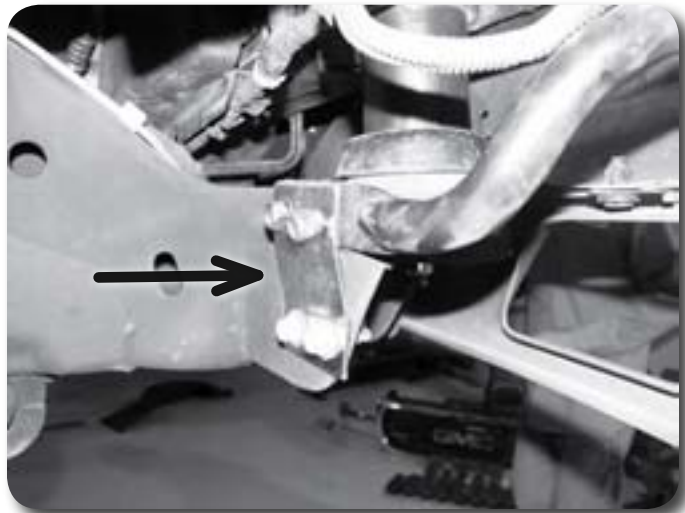

Figure 25
49. Mount the provided outside support relocation brackets to the factory front bumper support brackets with 7/16" x 1-1/4" bolts, nuts, and 3/8" USS washers. Do not tighten at this time **Figure 25**.
50. Loosely mount the relocation brackets to the original bracket location on the frame using the stock hardware **Figure 25**.